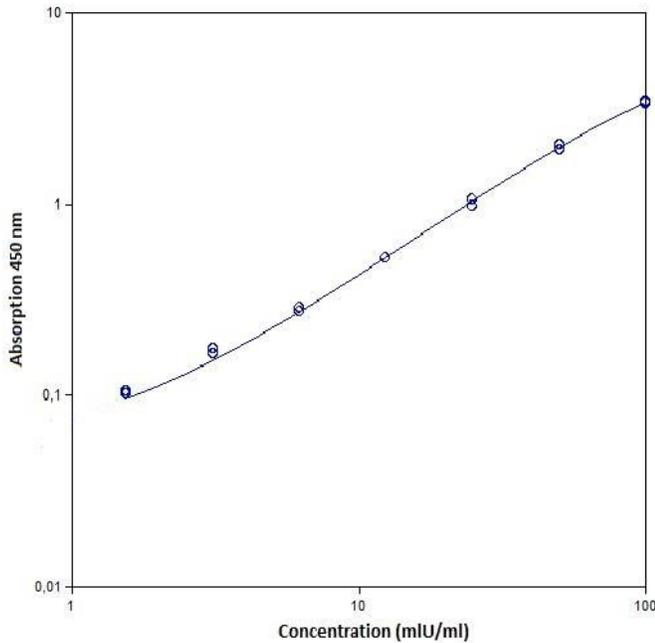

Fig. 8 Representative standard curve for human erythropoietin ELISA. Human erythropoietin was diluted in serial 2-fold steps in Sample Diluent.
- A representative standard curve is shown in Figure 8.